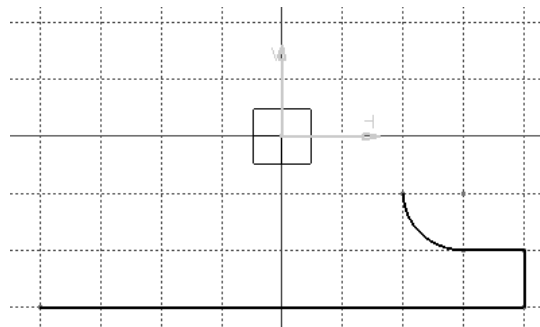

Figure 2-46 The sketch after drawing three lines and a tangent arc
- Draw the sketch of the model using the **Profile** and **Rectangle** tools, refer to Figures 2-46 through 2-48.
9. Move the cursor to the location whose coordinates are 20, -10 and specify the endpoint of the tangent arc; the **Line** mode is activated and the line gets attached to the cursor again. Figure 2-46 shows the sketch after drawing three lines and a tangent arc. In this figure, the constraints are hidden for better visualization.